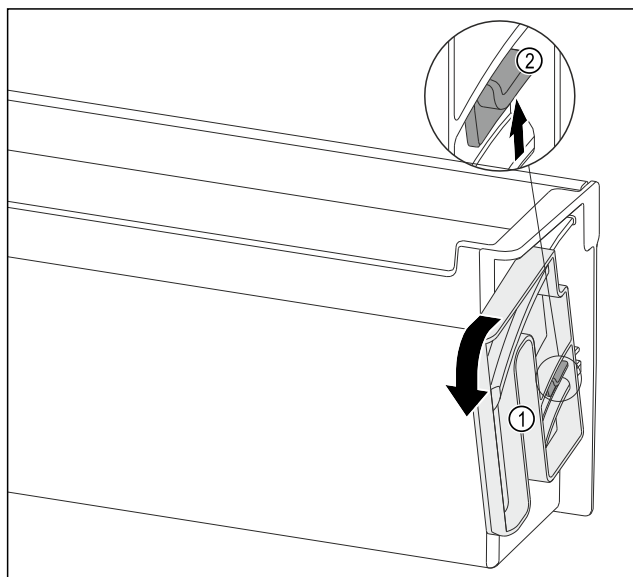

Fig. 143
- Turn the turning unit *Fig. 143 (1)* in the specified direction to the end stop.
- Press the tab *Fig. 143 (2)* up and remove the turning unit *Fig. 143 (1)*.